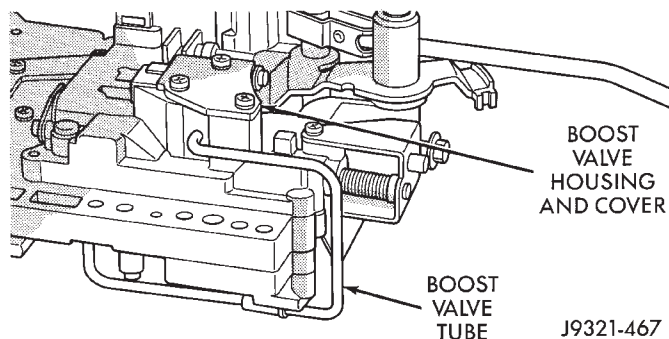

Fig. 42 Boost Valve Cover Location
(12) Remove boost valve cover (Fig. 42).